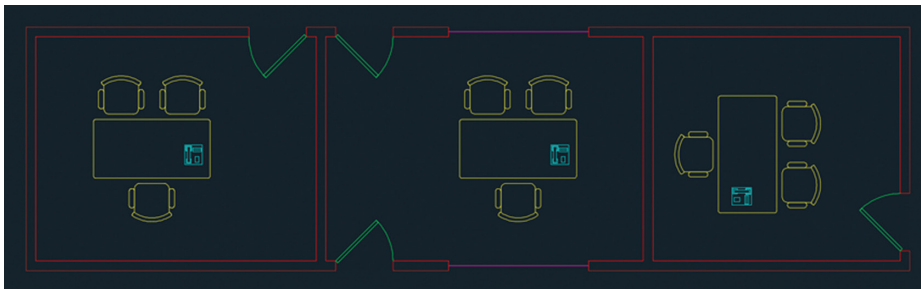

FIGURE 7.24 Copying and rotating groups in rooms
3. Click the Rotate tool on the Modify panel, select the group in the room on the right, and press Enter. Click an arbitrary point inside the desk, type -90 , and press Enter (see Figure 7.24).